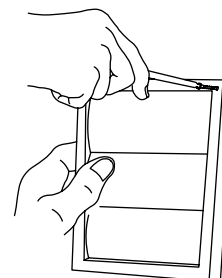

Fig. 10 — Install Hoods
5. Push the hood into the opening. Attach the hood to the outside wall with mounting screws. See Fig. 10.